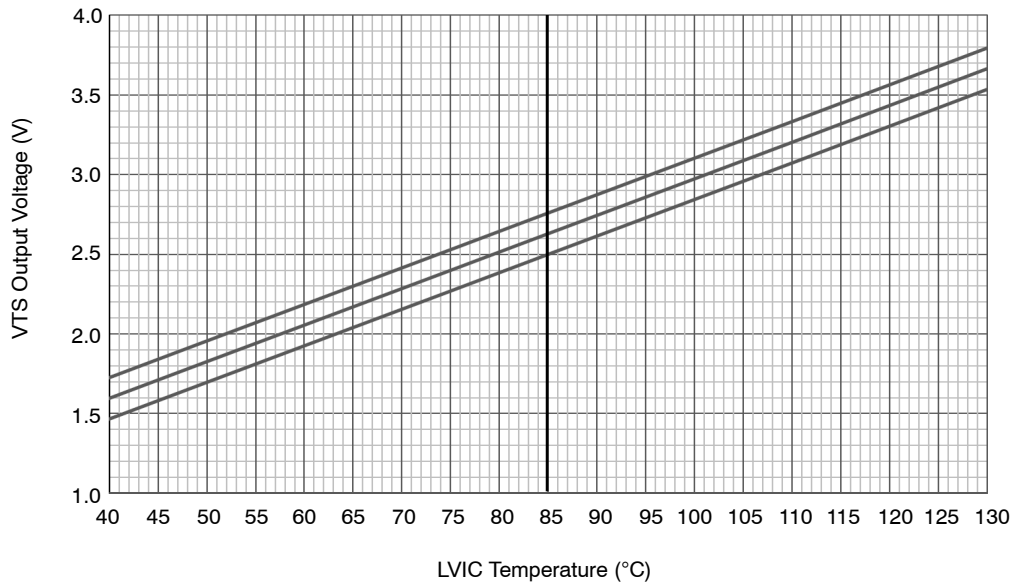
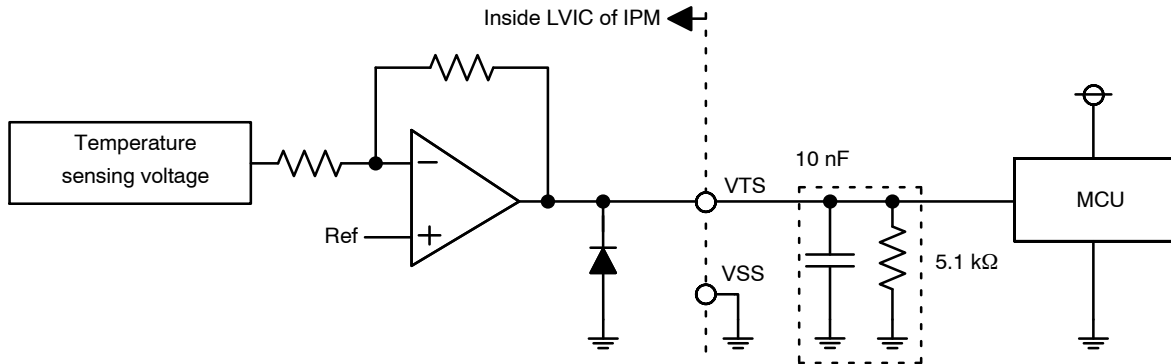

Figure 4. Temperature of LVIC vs. VTS Characteristics
Figure 5. Internal Block Diagram and Interface Circuit of VTS
- TLVIC is the temperature of LVIC itself. VTS is only for sensing temperature of LVIC and cannot shutdown IGBTs automatically. The relationship between VTS voltage output and LVIC temperature is described in Figure 4. It is recommended to add 5.1 kΩ pull down resistor between VTS and VSS (Signal Ground) as described in Figure 5 for linear output characteristics at low temperature. Refer to the application note for usage of VTS.